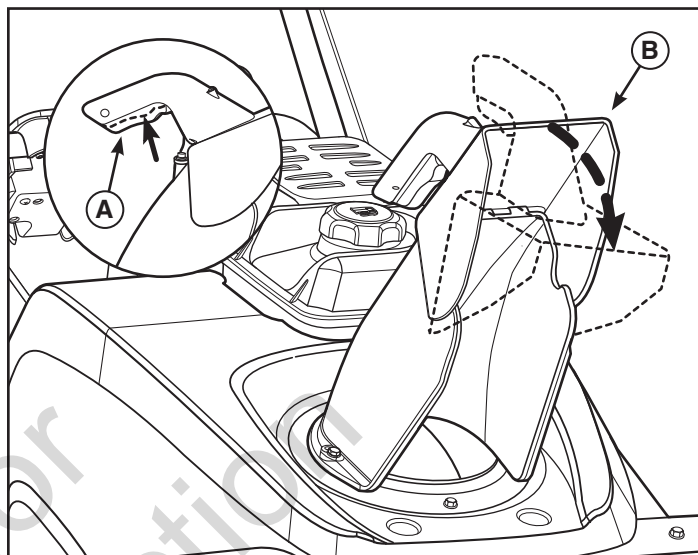

Figure 11
1. Squeeze the button (A, Figure 11) in the deflector handle and adjust the deflector (B) up or down to control the snow discharge height and distance.